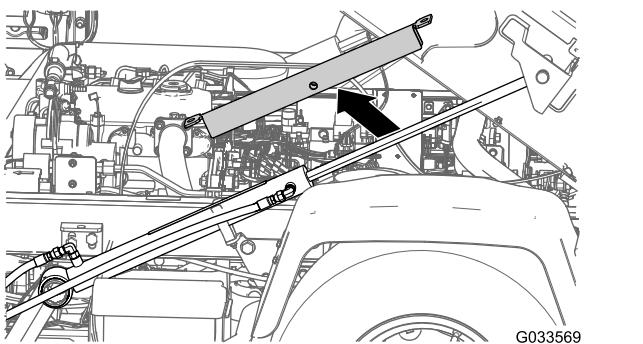
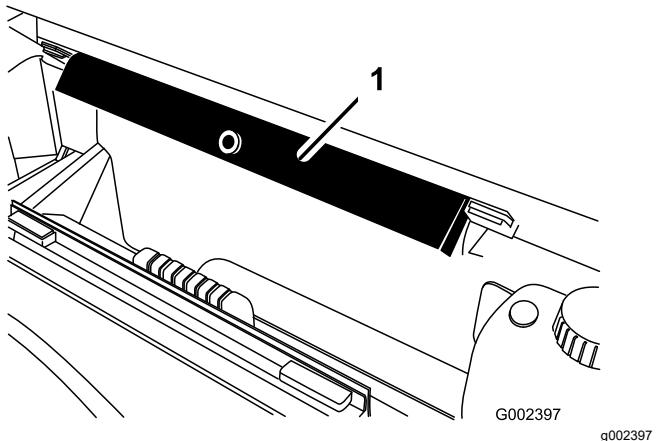

Figure 34
Figure 35
- Remove the bed support from the lift cylinder and stow the support in the storage brackets at the back of the ROPS panel (Figure 34 and Figure 35).